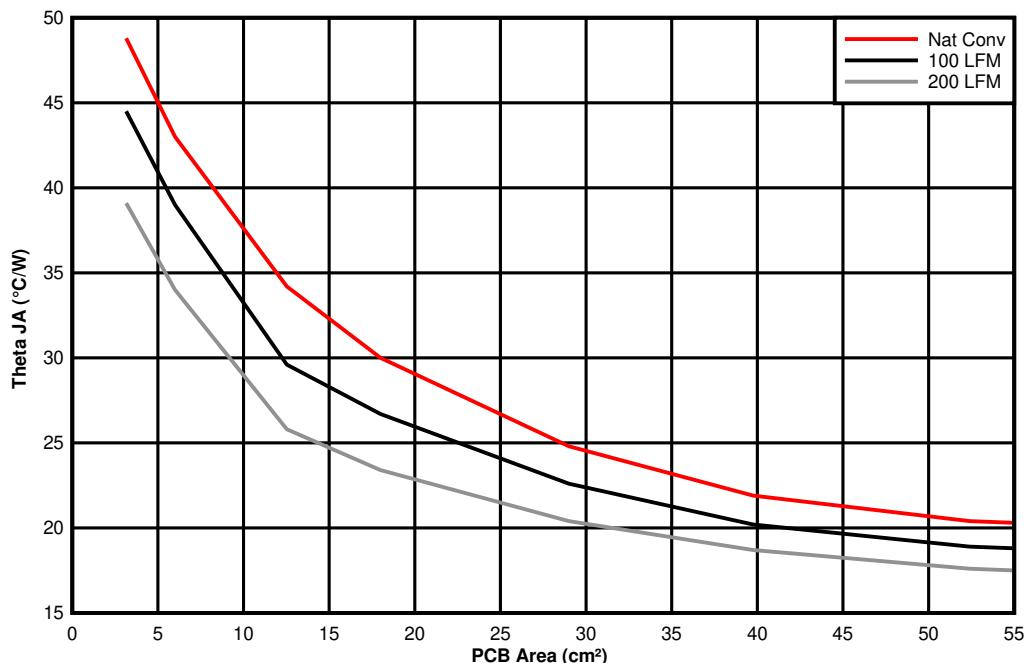

图 11-5.  $\theta_{JA}$  vs PCB Area
The amount of PCB copper as well as airflow effects the thermal performance of the device. 图 11-5 shows the effects of copper area and airflow on the junction-to-ambient thermal resistance ( $R_{\theta JA}$ ) of the TPSM5601R5. The junction-to-ambient thermal resistance versus PCB area is plotted for a 4-layer PCB.
3. Reference 图 11-5 to determine the minimum required PCB area for the application conditions.